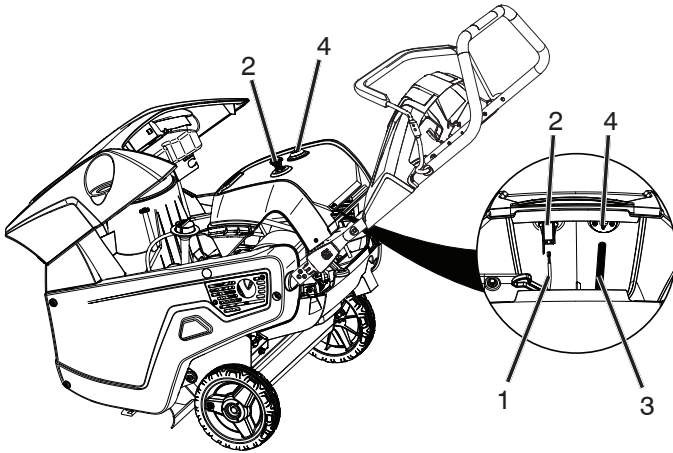

Figure 28
12. Unplug electrical wires on back of ignition switch (Figure 28).
21. Reattach primer bulb tube to primer bulb and electrical wires on back ignition switch of rear upper cover (Figure 28).